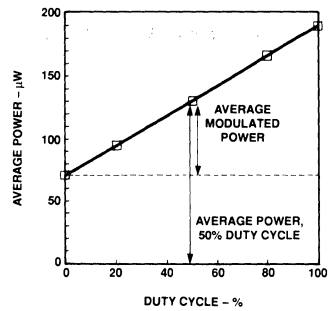

Figure 4. Average Modulated Power.
2. To allow the LED to switch at high speeds, the recommended drive circuit never switches the LED fully off; the light output power is modulated between two non-zero power levels. The modulated (useful) power is the difference between the high and low level of light output power (transmitted) or input power (received), which can be measured with an average power meter as a function of duty cycle (see Figure 4). *Average modulated power* is defined as one half the slope of the average power versus duty cycle: